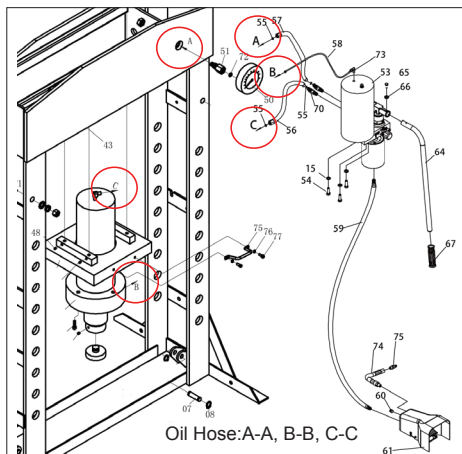
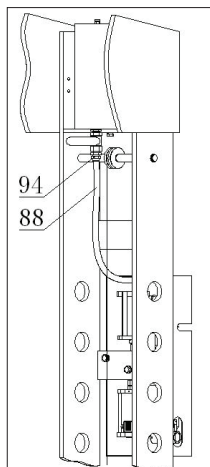
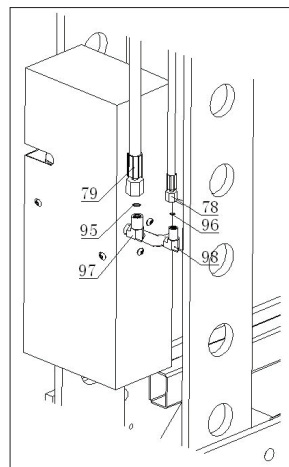

Fig.08
Fig.10
Fig.11
- Assemble oil hose :Fig.08 (WP75P), Fig.10 ,Fig.11 (WP100P).
• Operate by air: Depress the air foot valve (61, Fig.08)